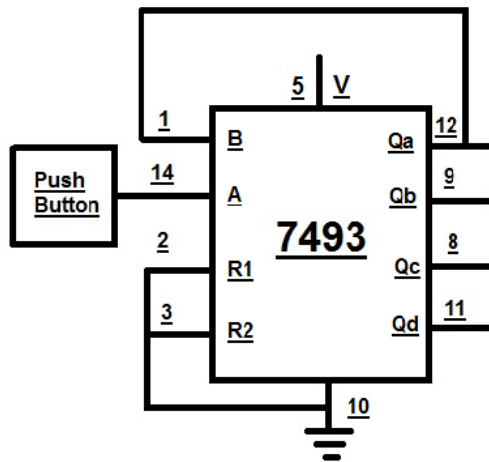

Figure 3. Binary Counter
2. Connect the IC type 7493 as shown in Fig. 3 Pin 14 is connected to push button (PB1).